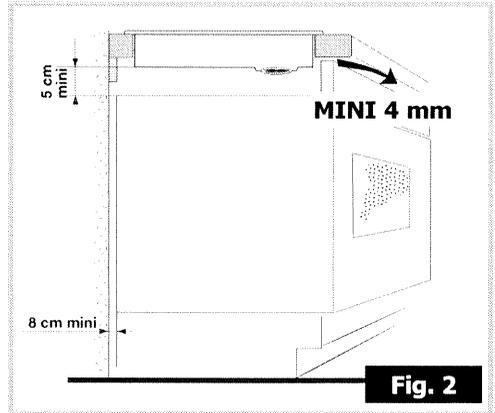

Fig. 2
- Fitting above an oven in the lower position (**Fig. 2**).